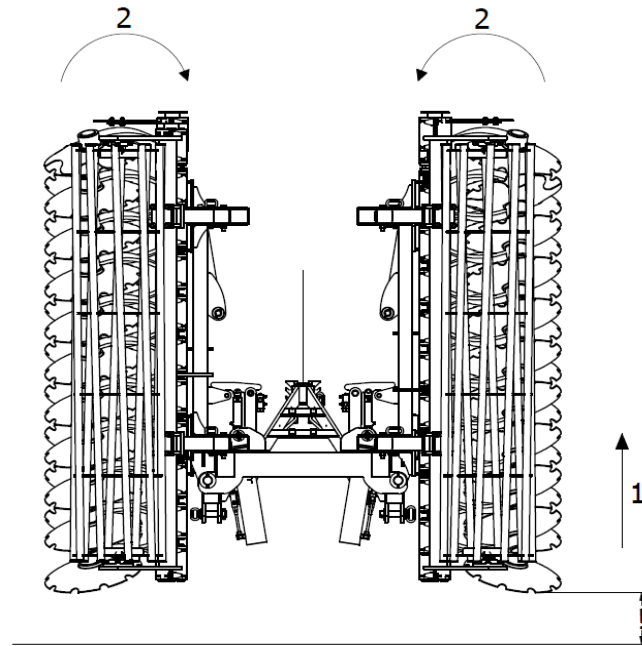

Fig. 8 Implement opening sequence: 1- raise the implement up to the maximum, 2- fold the side extensions into the “closed” position.
1. First, raise the implement as much as possible to be able to fold it correctly, avoiding the risk of the folding arms snagging on the ground during movement (Fig. 8).
2. Next, fold the implement side extensions hydraulically into the “closed” position to ensure that the side extension lock mechanism will unlock and allow the implement arms to be opened at a later stage. This operation is necessary each time the arms are opened (Fig. 8).